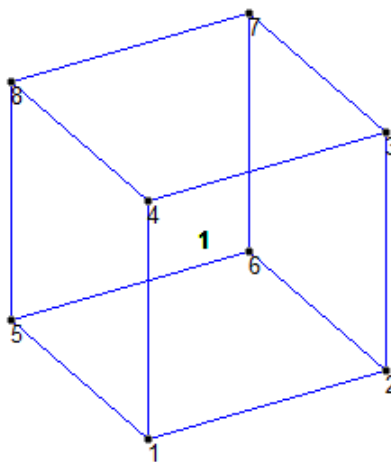

Figure 2-34 The concrete block
In this example, you will create the solid block element using the Snap Node/Solid method. Figure 2-34 shows the concrete block to be created.
Step 7: Now, repeat the steps 2 through 4 to create nodes 5, 6, 7, and 8; the solid element is created, refer to Figure 2-34. Press the ESC button to exit the command. Press SHIFT+N and SHIFT+C to view the node and solid number, respectively.